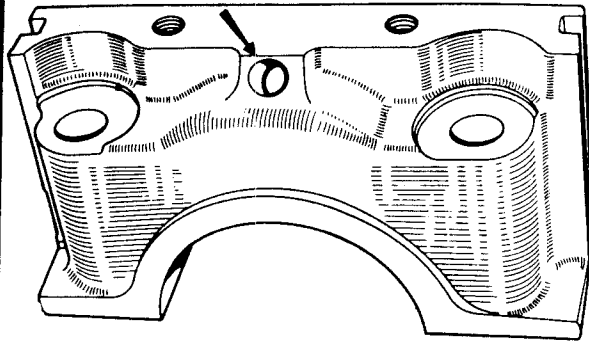

Fig.1.48 Front main bearing cap on type 697 engine (oil hole arrowed)
- 6 With type 697 engines, check the size of the front bearing cap oil hole, Fig.1.48. It should be 0.472 in (12 mm) in diameter. If it is smaller than this, drill it out and deburr the ends of the hole.